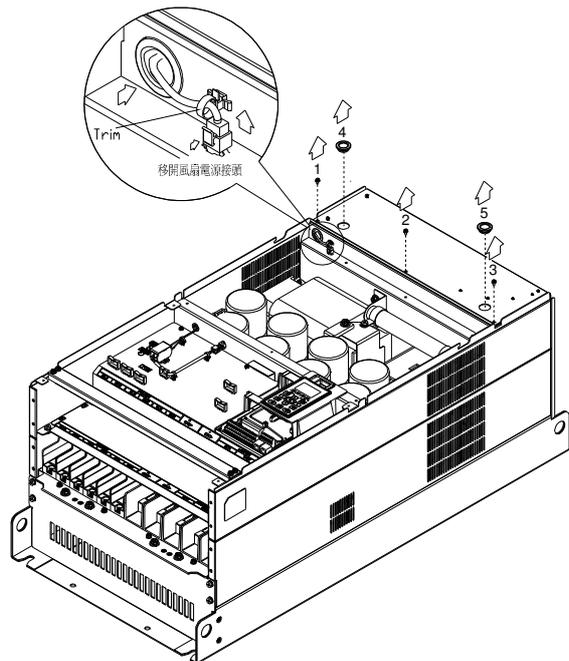

Figure 3
(3) Loosen screw 1,2,3 and remove the protective ring (as shown in figure 3) Screw torque: 14~16kg-cm (12.2~13.9 lb-in).